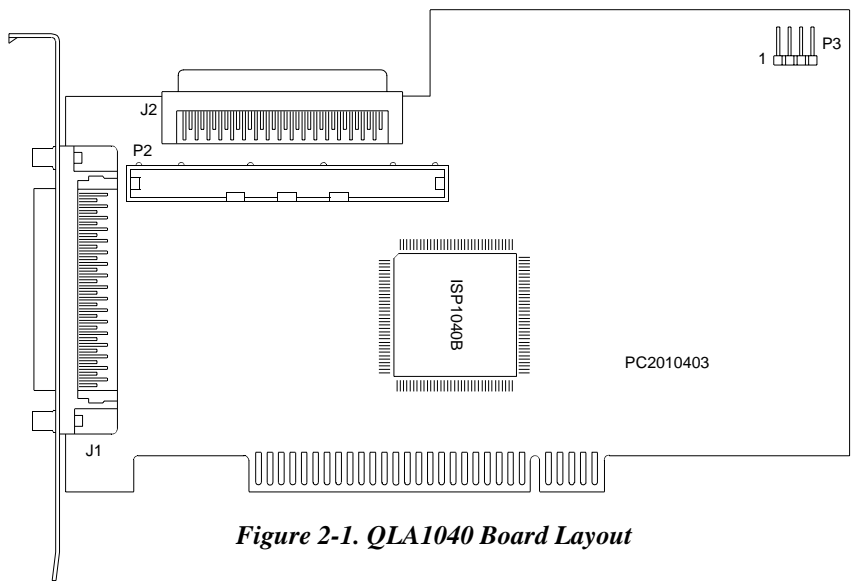

Figure 2-1. QLA1040 Board Layout
- ☐ You can use any two of the connectors on the QLA1040/1041 boards (see figures 2-1 and 2-2). Using all three connectors violates the SCSI specification and can cause your peripheral devices to operate incorrectly.
Figures 2-1 through 2-6 identify the QLA1xxx board components referenced throughout this section.
**CAUTION!** You can use any two of the connectors on the QLA1040/1041 boards (see figures 2-1 and 2-2). Using all three connectors violates the SCSI specification and can cause your peripheral devices to operate incorrectly.